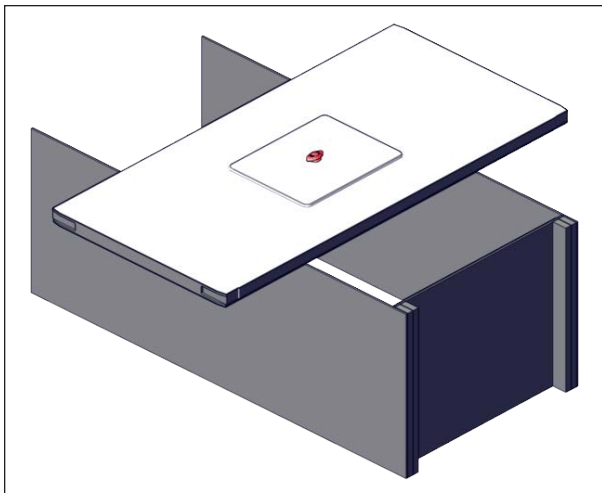

FIGURE 26: ESCAPE HATCH INSTALLATION
5. Turn the escape hatch handle to retract the arms and install it into the escape hatch opening of the center panel, see Figure 26.